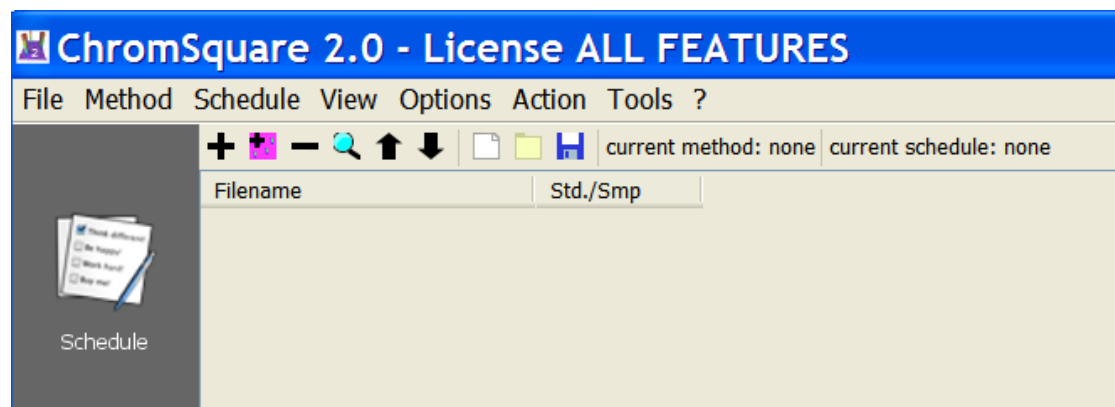

Figure 5.1: The Tool Bar of the Schedule Panel
The Schedule Tool Bar is placed in the upper side of the *Chrom^{square}* main interface, immediately under the Menu Bar. See Figure 5.1.
1. Initially (when software starts or the command **New Schedule** is executed), the table only contains the header of the first two columns (“**Filename**”, “**Std./Smp.**”) and no rows, exactly as shown in Figure 5.1.